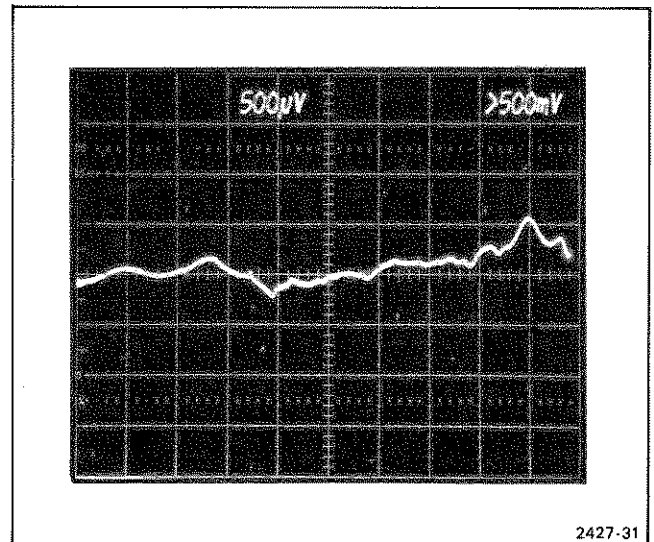

Figure 5-6. Display of frequency-response curve at 0.5 mV/Div.
- h. Use the 7A22 Offset controls to position the frequency-response curve to the center of the display. Set the reference frequency marker to the center horizontal graticule line. Figure 5-6 shows this display.